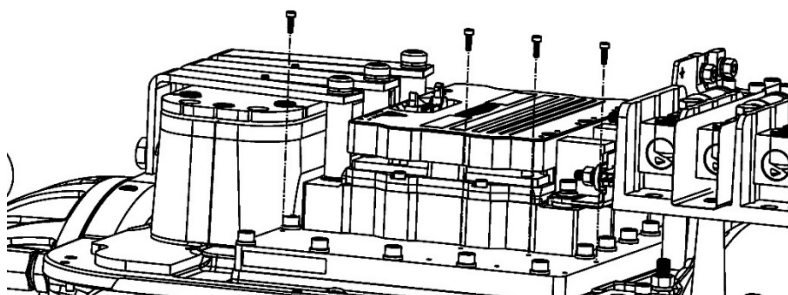

Figure 7 – Rear Potted DC-DC Converter Fasteners
5. After the removal of the DC-DC Converter, completely remove the four (4) DC-DC Converter fasteners closest to the Inverter. Refer to Figure 7 (Rear Potted DC-DC Converter Fasteners).